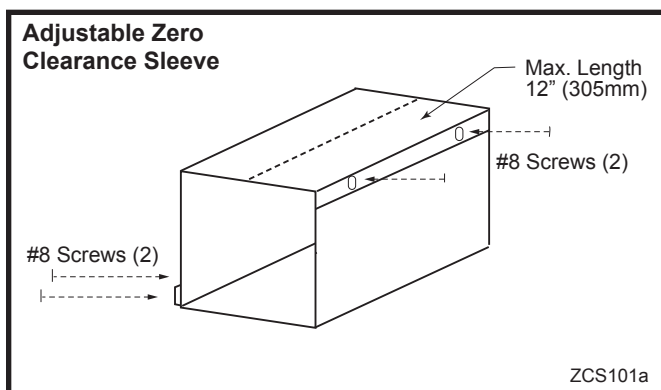
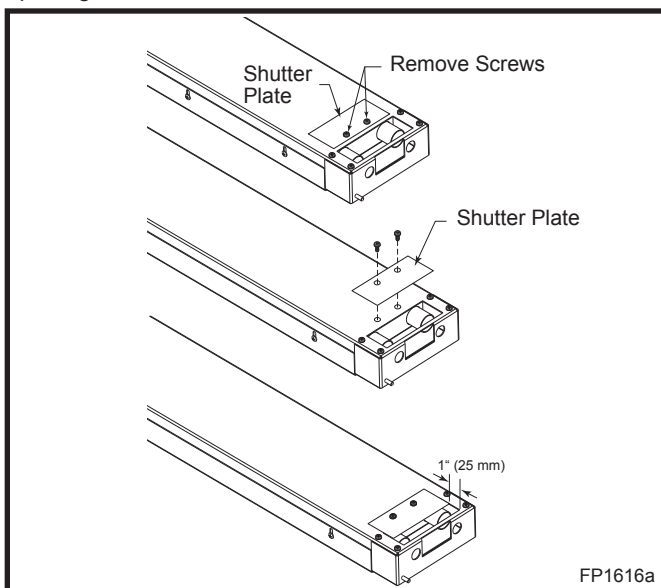

Fig. 20 Adjustable zero clearance sleeve.
Fig. 30 Turn shutter plate over to cover opening.
Measure wall thickness and cut zero clearance sleeve parts to proper length (MAXIMUM 12”/305 mm). Assemble sleeve using #8 sheet metal screws (supplied). (Fig. 20) Install firestop assembly. (Fig. 30)
Measure wall thickness and cut zero clearance sleeve parts to proper length (MAXIMUM 12"/305 mm). Assemble sleeve using #8 sheet metal screws (supplied). (Fig. 20) Install firestop assembly. (Fig. 30)
4. Turn the burner housing upside down. Remove the two (2) screws securing the shutter plate to the bottom of the burner. Turn the shutter plate around so the bottom opening is 1" (25 mm). Replace the screws removed earlier. (Fig. 30)